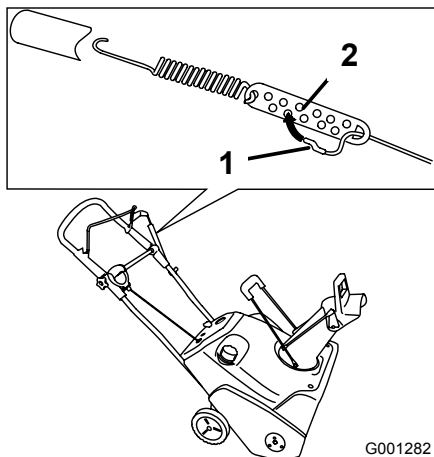

Figure 25
2. Move the Z-fitting to a higher or lower hole on the adjuster link as needed to obtain the 6-1/2-inch (16.5 cm) gap between the control bar and the handle (Figure 25).